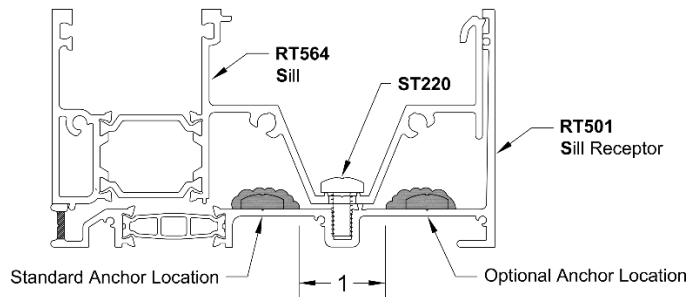

Figure 62: Sill Receptor Cap Seal Detail
- 17.4 Cap seal all fasteners. Check that the sealant over the perimeter fasteners has a 1" separation centered at the spline channel for the **ST22000** fastener, as shown in *Figure 62*.